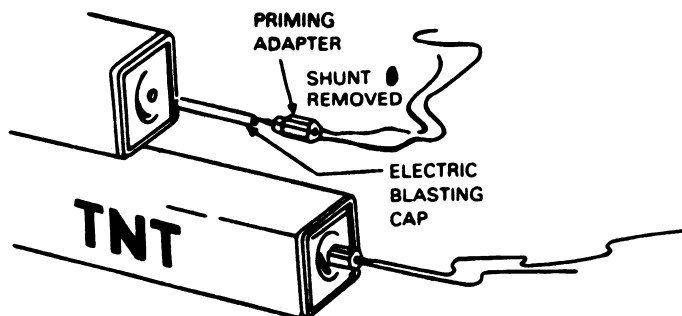

Figure 1
1. To prime a demolition block with a threaded cap well and priming adapter available (fig. 1).